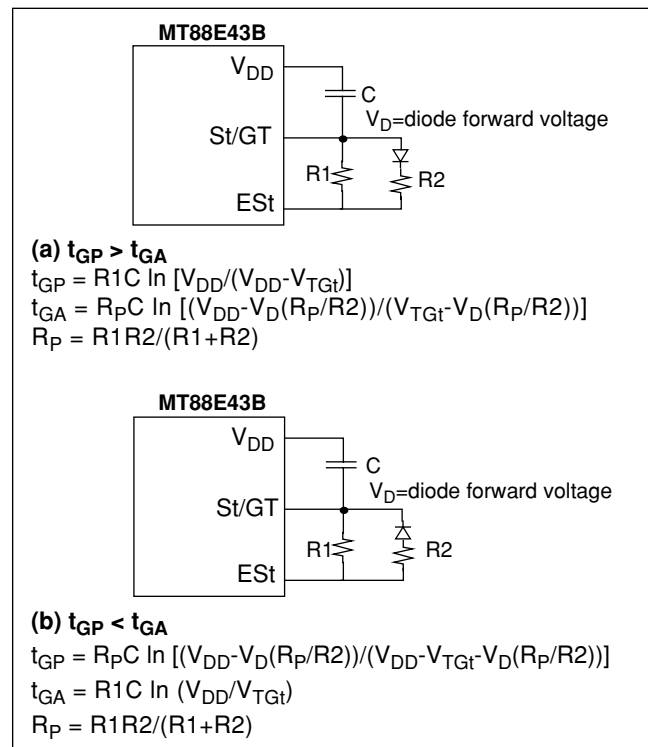
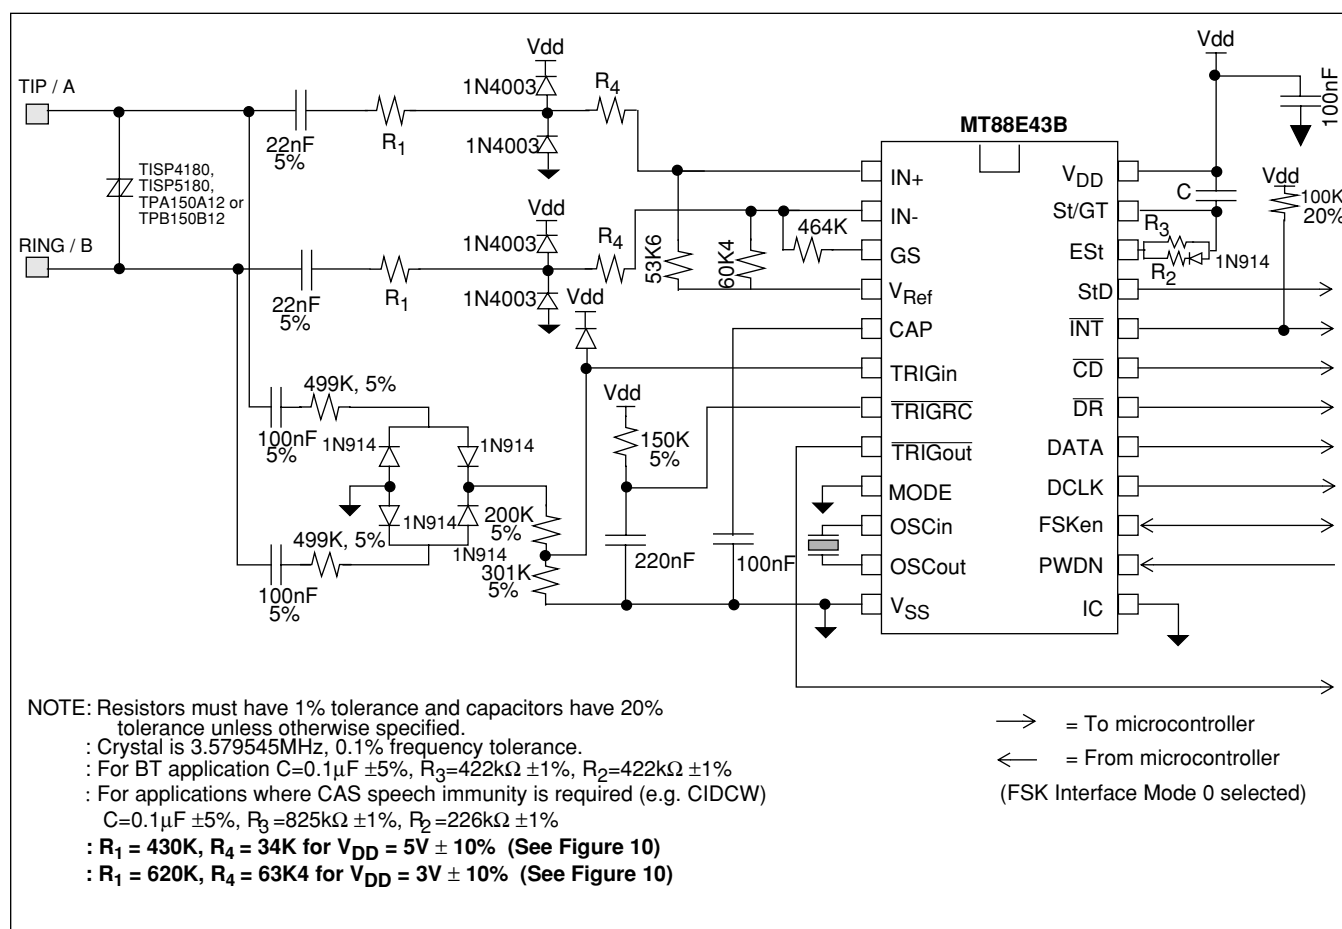
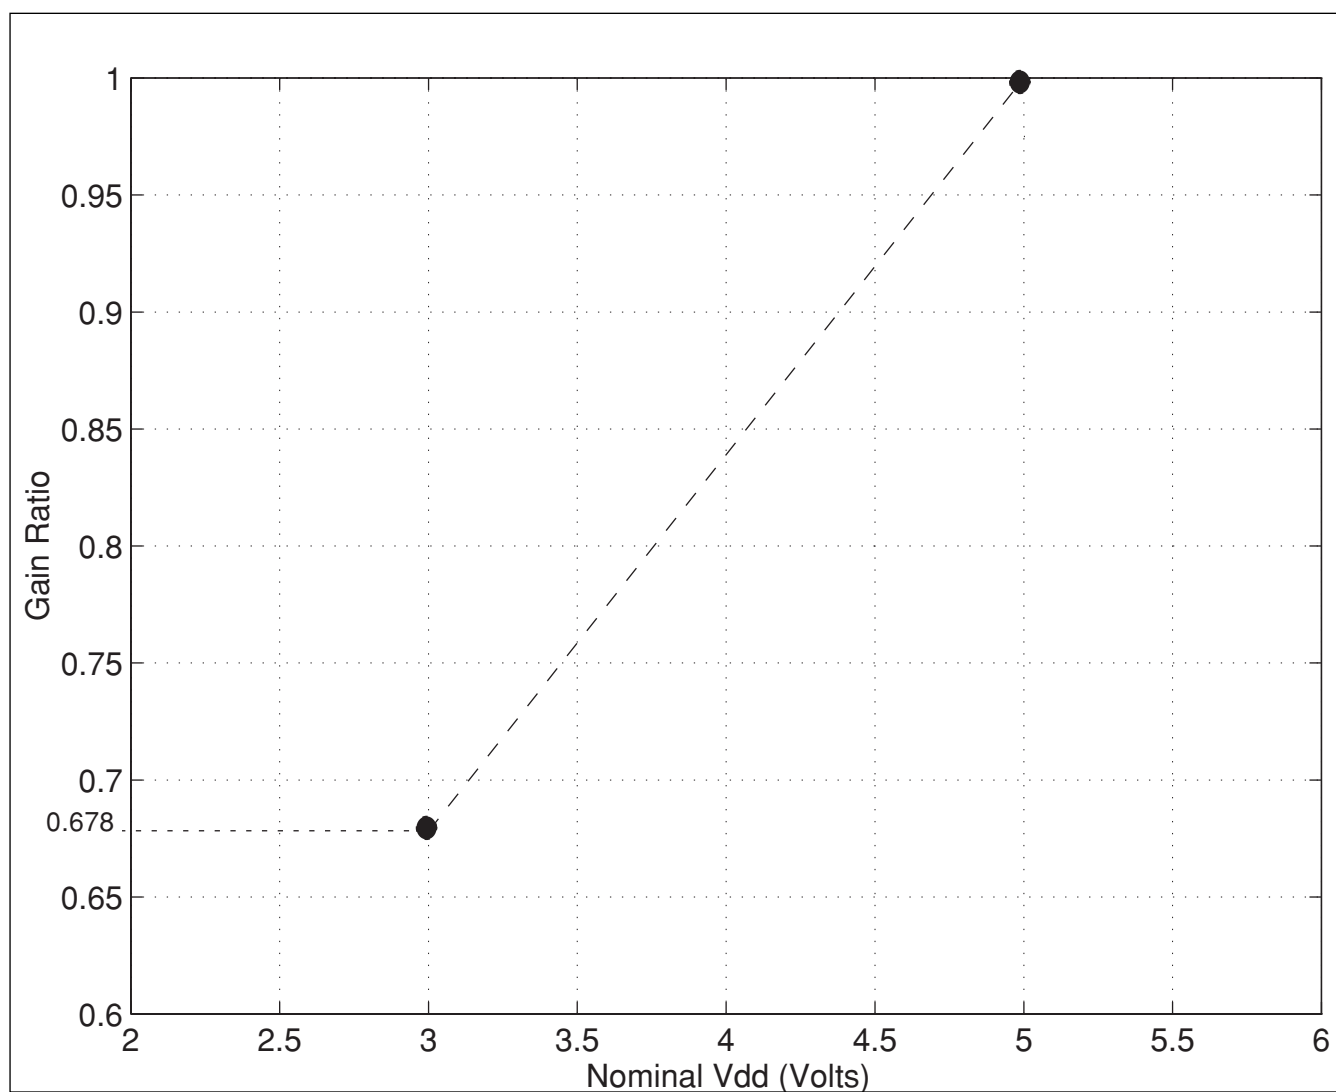

Figure 5 - Guard Time Circuits with Unequal Times
Figure 9 - Application Circuit
Figure 10: Gain Ratio as a function of Nominal Vdd
BT specifies that the idle state tone alert signal recognition time should not be less than 20ms when both tones are used for detection. That is, both tones must be detected together for at least 20ms before the signal can be declared valid. This requirement can be met by setting the t_{GP} (refer to Figure 5) to at least 20ms.
BT also specifies that the TE is required to apply a DC wetting pulse and an AC load 15-25ms after the end of the alerting signal. If $t_{ABS}=t_{DA}+t_{GA}$ is 15 to 25ms, the DC current wetting pulse and the AC load can both be applied at the falling edge of StD. The maximum t_{DA} is 8ms so t_{GA} should be 15-17ms. Therefore, t_{GP} must be greater than t_{GA} . Figure 5(a) shows a possible implementation. The values in Figures 9 and 11 ($R_2=R_3=422K$, $C=0.1\mu F$) will meet the BT timing requirements.
The circuits shown in Figures 9 and 11 are application circuits for the MT88E43B. As supply voltage (V_{DD}) is decreased, the threshold of the device's tone and FSK detectors will be reduced. Therefore, to meet the BT or Bellcore tone reject level requirements the gain of the input opamp should be reduced according to the graph in Figure 10. For example when $V_{DD}=5V$ (+/- 10%), R_1 should equal 430k Ω and R_4 should equal 34k Ω ; and if $V_{DD}=3V$ (+/- 10%) R_1 should equal 620k Ω and R_4 should equal 63.4k Ω . Resistors R_1 and R_4 are shown in Figures 9 and 11.
The circuit shown in Figure 9 illustrates the use of the MT88E43B in a proprietary system that doesn't need to meet FCC, DOC, and UL approvals. It should be noted that if glitches on the Tip/Ring interface are of sufficient amplitude, the circuit will falsely detect these signals as ringing or line reversal.
Note: In the application circuits shown in Figures 9 and 11, the Gain Ratio of MT88E43B opamp is
3. Tip/Ring signal level. Input opamp configured to 0dB gain at V_{DD}=5V±10%, -3.38dB gain at V_{DD}=3V±10%. (see Figure 10)